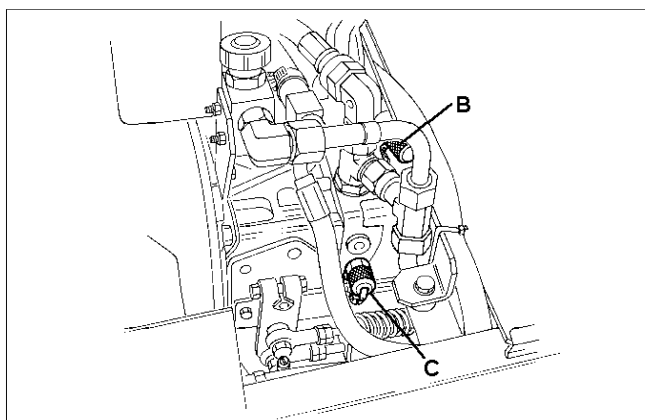

Fig.52
TEST PORTS (Fig.52 & 53)
1. Transmission pressure forward 210 bar (3045psi) (C Fig.52):
3. Charge pressure 14 bar (200psi) (B Fig.52):
ORIFICES D'ESSAI (Fig. 52 & 53)
1. Pression de transmission en avant : 210 bars (Fig. 52 "C").
3. Pression de charge : 14 bar (Fig. 52 "B").